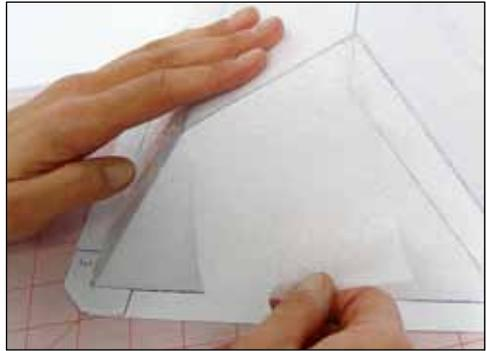

Figure 12
6. Smooth down the foam from Section B and glue it to the sides over the other foam. Repeat on the other side. The outside of the reflector box should now be covered by foam except for the edges (Figure 12).